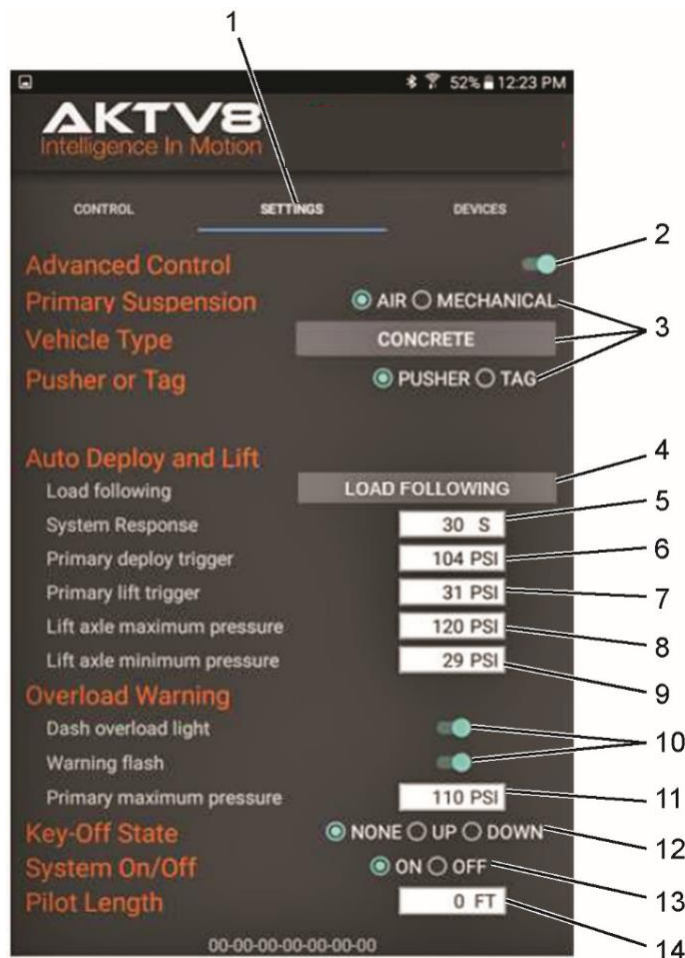

Figure 16
1. Touch or swipe to **SETTINGS** tab (Figure 16, Item 1).
2. Touch to toggle on **Advanced Control** (Figure 16, Item 2).
3. Touch to select the features (Figure 16, Item 3) that apply to the vehicle.
5. Touch **System Response** window (Figure 16, Item 5) and set system response (typically 20 to 60 seconds).
6. Touch **Primary deploy trigger** window (Figure 16, Item 6) and set pressure for the primary deploy trigger. Recommendation is 2 to 5% below maximum legal primary suspension pressure.
7. Touch **Primary lift trigger** window (Figure 16, Item 7) and set pressure for the primary lift trigger. Recommended is 40 to 60% below maximum legal primary suspension pressure.
8. Touch **Lift axle maximum pressure** window (Figure 16, Item 8) and set maximum pressure when fully loaded.
9. Touch **Lift axle minimum pressure** window (Figure 16, Item 9) and set minimum pressure when lift axle will deploy.
10. Touch to toggle on/off warning light functions (Figure 16, Item 10) as desired.
11. Touch **Primary maximum pressure** window (Figure 16, Item 11) and set maximum pressure.
12. Touch to select desired Key-Off State (Figure 16, Item 12), this function is not used.
13. Touch to select desired **System On/Off** (Figure 16, Item 13).
14. Touch **Pilot Length** window (Figure 16, Item 14) and set estimated pilot line length.